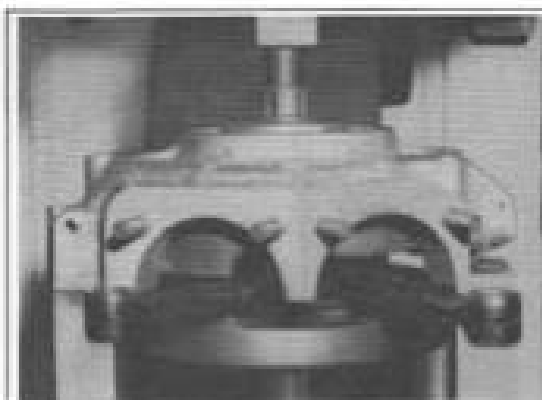

Figure 3-33. Pressing Flywheels Out of Crankcase.
6. Mount flywheel and left case assembly on press table supporting case on parallel bars (Figure 3-33) and press on end of sprocket shaft with arbor press until flywheel assembly (8) drops out. Remove seal (7), freeing sprocket side bearing half (9), spacer (10) and spacer (10).